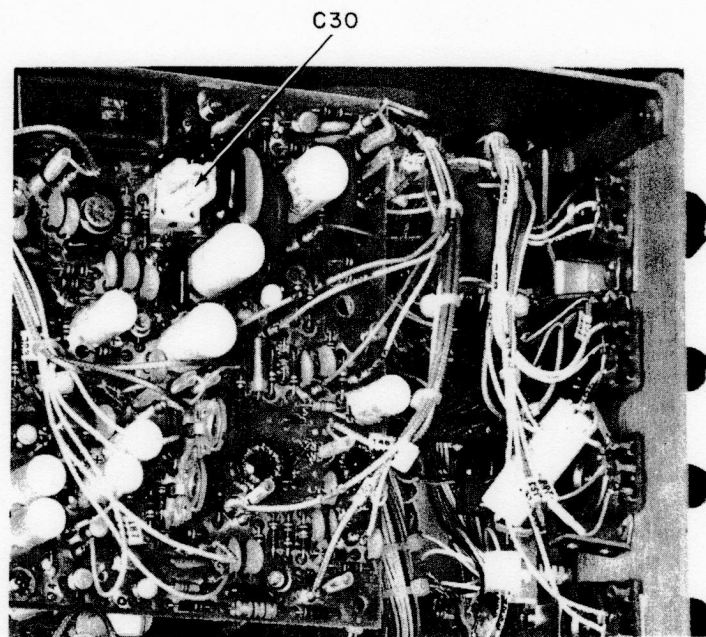

Figure 5-2. Location of C30 on AGC Detector Board
6. Adjust AGC Detector board capacitor C30 (see Figure 5-2) for a zero beat between the 100 kHz oscillator output and the carrier of WWV. If the "KHZ" frequency display does not indicate ".000.0," proceed with paragraph 5.3.1.c.